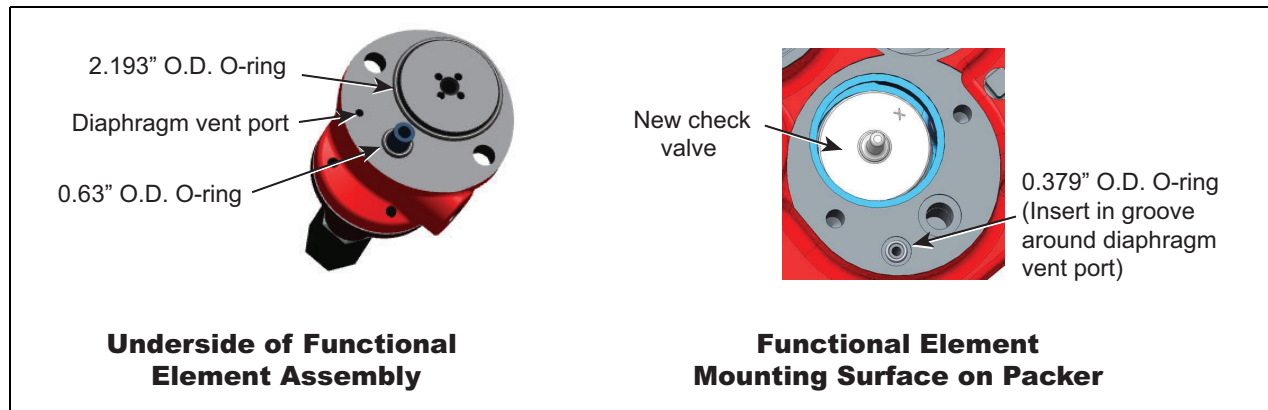

Figure 36. Functional Element O-Rings
3. Carefully lift the functional element assembly from the packer. Notice the spring resting on the check valve inside the packer. The larger diameter end of the spring is facing up. Notice the small O-ring (0.379" O.D.) in the groove around the diaphragm vent port in the mating surface of the packer (see Figure 36).
5. Be certain all mating surfaces are clean. Lubricate the three new functional element O-rings from the kit with petroleum jelly. Install the 2.193" O.D. and 0.63" O.D. O-rings in the bottom of the functional element as shown in Figure 36. Install the new 0.379" O.D. O-ring in the groove around the packer's diaphragm vent port.
6. Position the new check valve in the packer in same position as was the old check valve (see Figure 36). Position the new check valve spring on top of the new check valve with the larger diameter end of the spring facing up.